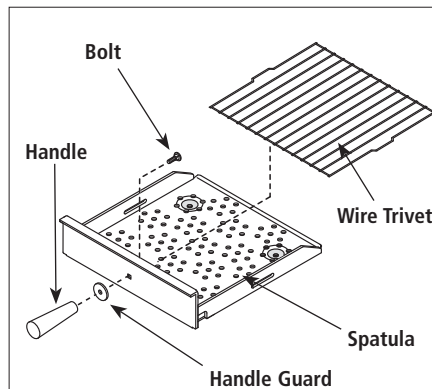

Figure 3. Assembling Handle (MS-150 Only)
6. **MS-150 Models:** Assemble the Handle, Handle Guard and Mounting Bolt to the Spatula (Figure 3).